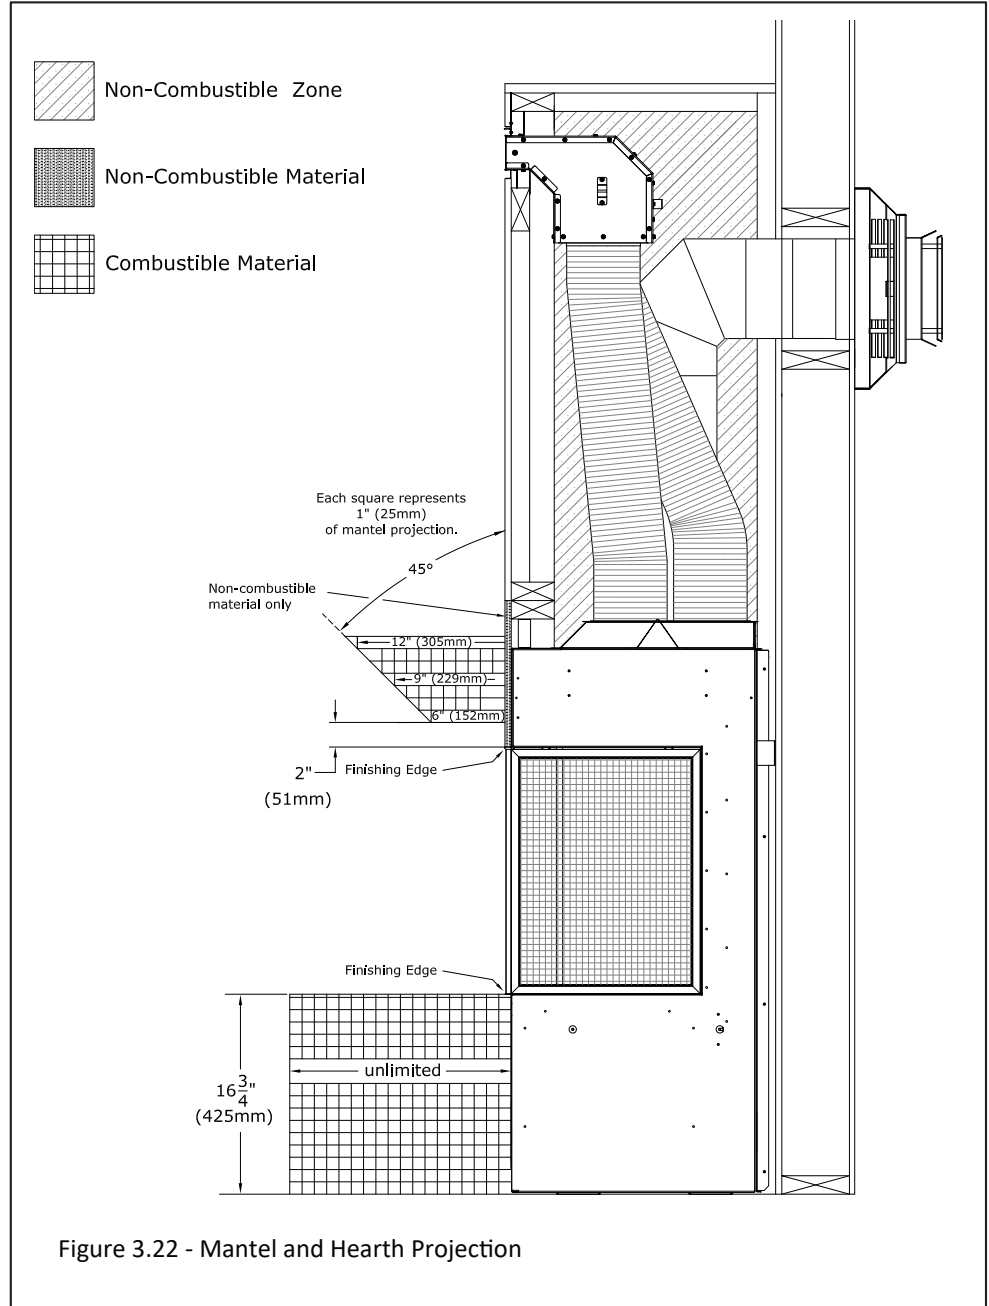

Figure 3.22 - Mantel and Hearth Projection
- **Combustible Mantel Projections:** A maximum of a 6" (152mm) mantel can be installed at 2" (51mm) above the side and top finishing edge. Mantel projections can increase 1" (25mm) of depth for every 1" of height starting at the 6" (152mm) mantel. See Figure 3.22.
- **Combustible Hearth:** Combustible hearth can have an unlimited projection. Hearth can be raised flush to the bottom finishing edge. See Figure 3.22.